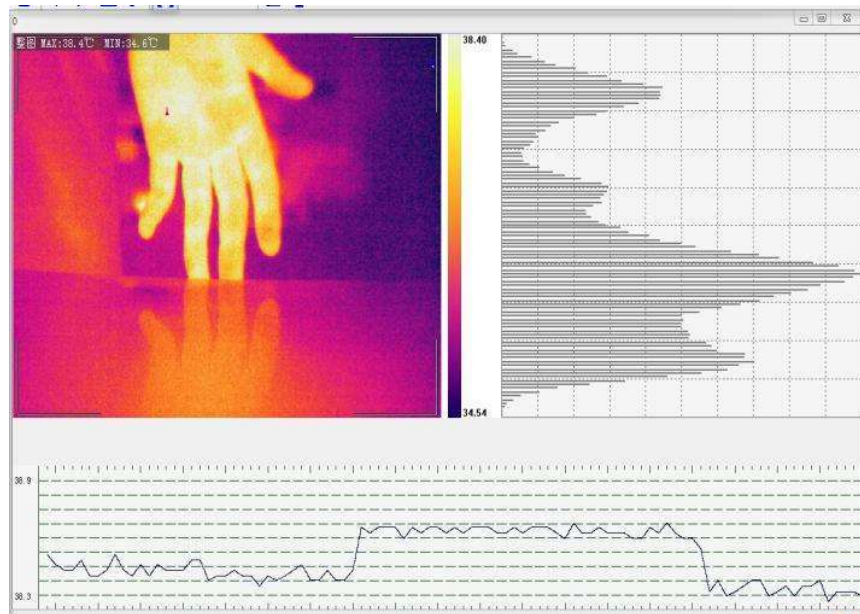

Figure 5-7
**Gray preview:** Preview and analysis the current target gray value of thermal images. As shown in the figure 5-7.